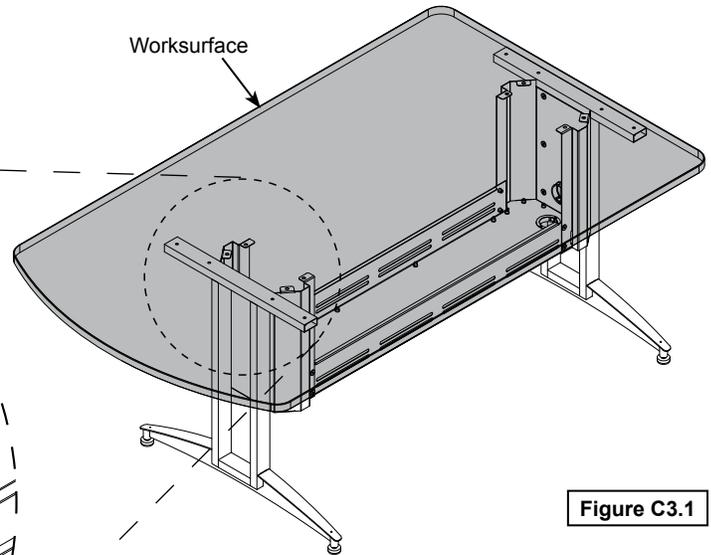

Figure C3.1
2. Set the worksurface onto the assembled legs and align mounting holes. **Figure C3.1.**